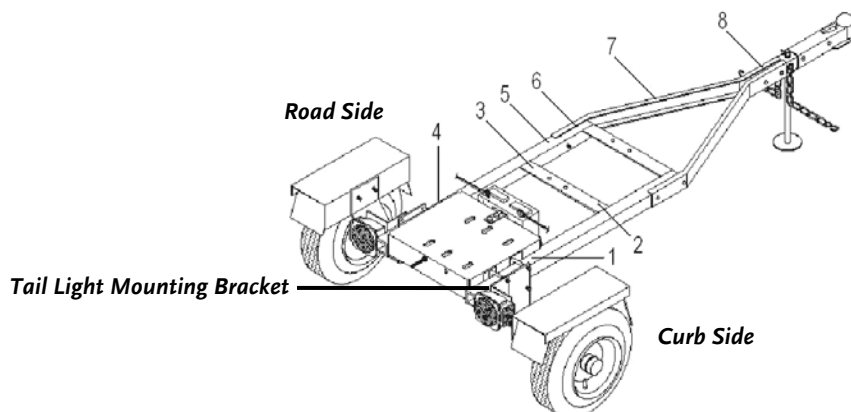

Figure 5
The wire harness supplied must be installed on the trailer of your new DR ROAD-TOWABLE CHIPPER before you can transport the machine on public roadways. Identify the "Road Side" and "Curb Side" of the trailer from **Figure 5** below.
6. Once the wires are correctly attached in the light sockets, secure the Harness to the Trailer Frame using the cable ties (**Figure 5**) as follows:
- Attach the Curb Side wires to the Frame at points 1, 2, and 3 (**Figure 5**).
- Attach the Road Side wires to the Frame at point 4 (**Figure 5**).
- Attach both Curb and Road Side wires to the Frame at points 5, 6, 7, and 8 (**Figure 5**).
NOTE: We recommend that you wrap the Harness wires together with electrical tape about every twelve (12) inches starting at tie point 5 (**Figure 5**) and going toward the hitch.